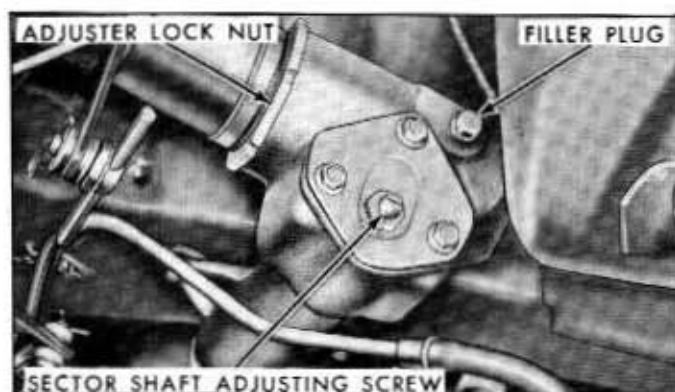

Fig. 5-4—Steering Gear Adjustments—(60C-1202)
6. Loosen the nut which locks the sector adjusting screw, and turn the adjusting screw counterclockwise. See figure 5-4.
8. Refer to figure 5-4 and loosen the steering shaft bearing adjuster locknut, and tighten or back off the bearing adjuster to bring the preload within the specified limits.